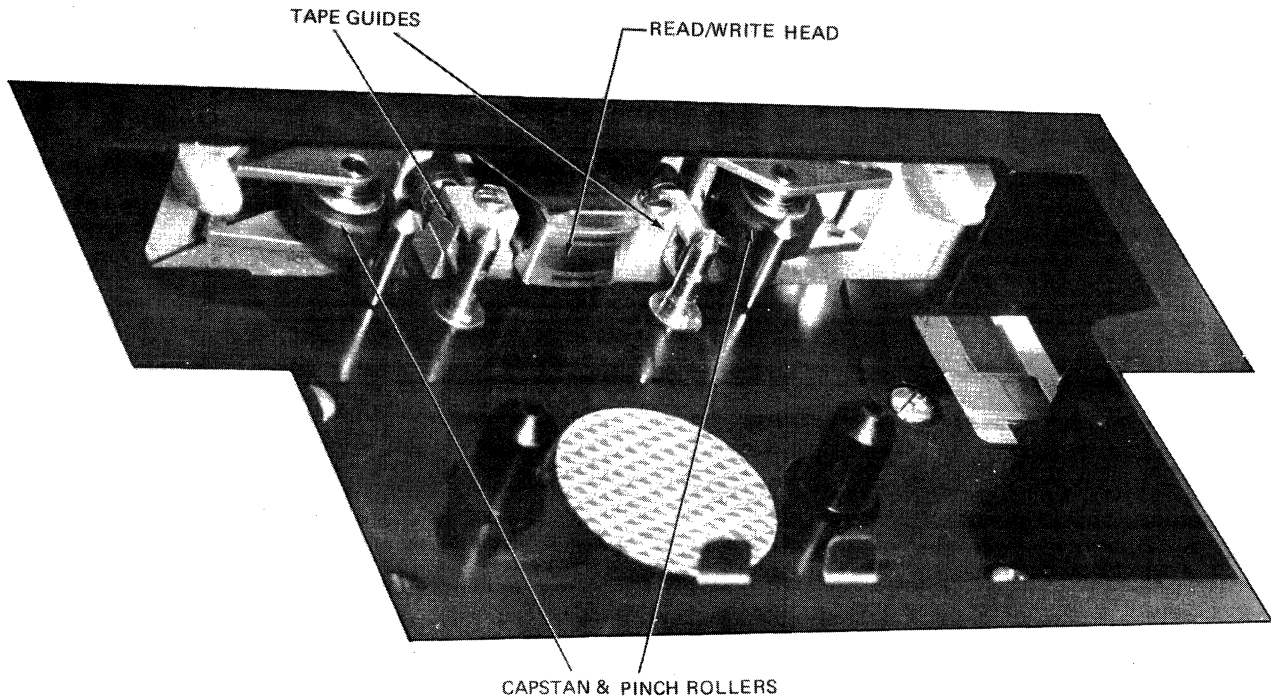

FIGURE 5-1.2. TAPE CASSETTE TRANSPORT CLEANING AREAS
- b. Use a clean cotton swab (or lint-free cloth) dampened with denatured alcohol to clean the heads, the forward and reverse capstans, and the associated pinch rollers (see Figure 5-1.2).